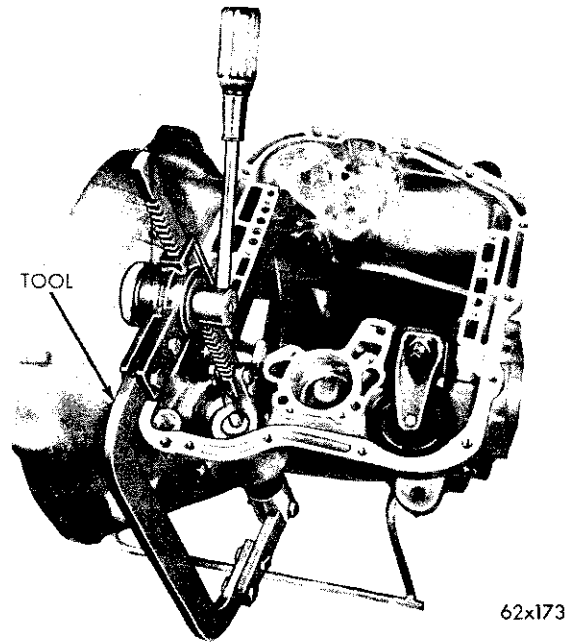

Fig. 57—Compressing Kickdown Servo Spring
(1) Compress the kickdown servo spring by using engine valve spring compressor Tool C-3422, then remove the snap ring (Fig. 57).